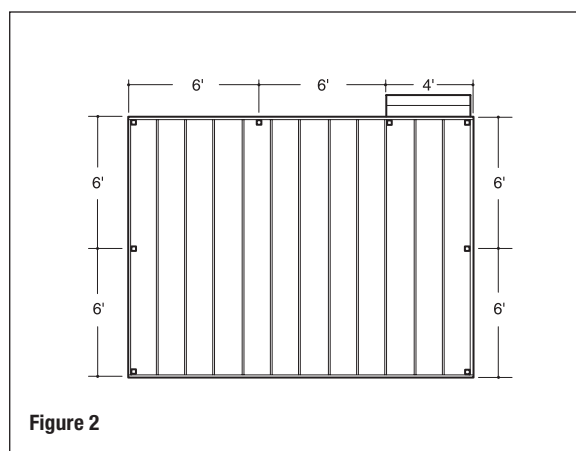

Figure 2
Step 1 Determine the number of railing posts needed for your deck. *Post spacing is 6' on-center.* Example: A 12x16 deck attached to a building with a 4' access opening on one side will require a total of eight posts (**Figure 2**).